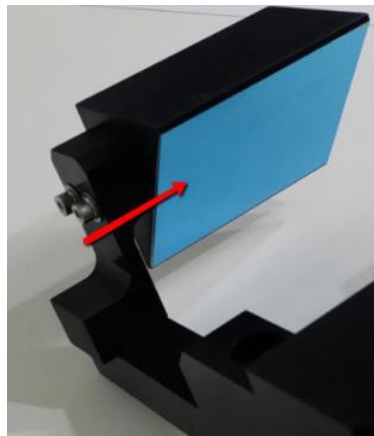

Figure 21 Blue Adhesive Protector Removal
- Remove blue adhesive protector from Mirror block as Figure 21.